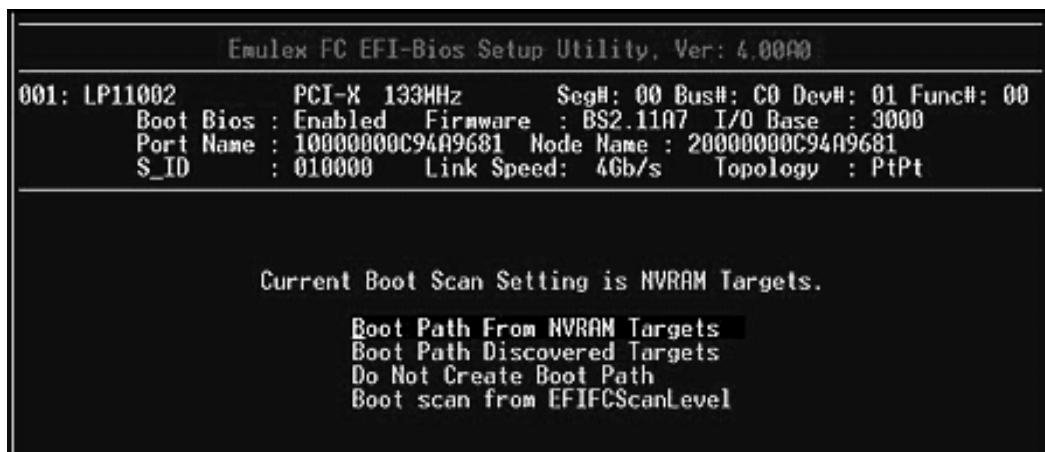

Figure 37: Boot Scan Options screen
1. On the Boot Configuration menu, select **3. Boot Target Scan** and press **<Enter>**. The screen shown in Figure 37 is displayed.